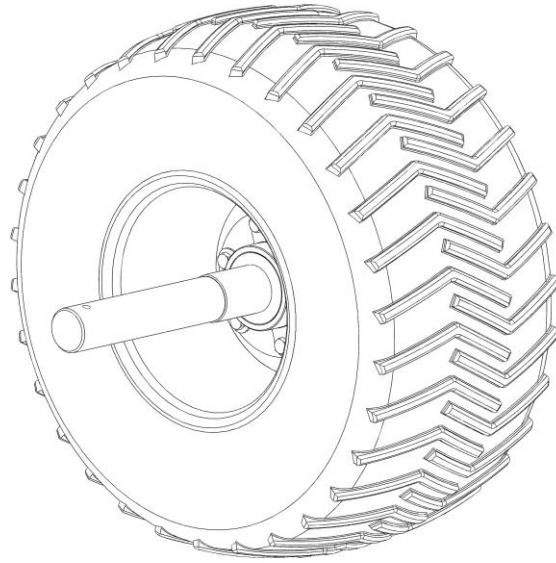

Figure 3.5
5. Transportation Wheels (Figure 3.5)